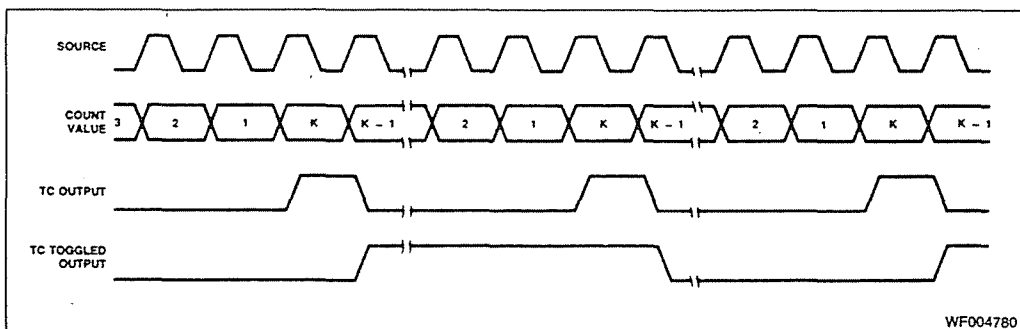

Figure 1-19. Counter Output Waveforms
One output form available is called Terminal Count (TC) and represents the period in time that the counter reaches an equivalent value of zero. TC will occur on the next count when the counter is at 0001 for down counting, at 9999 (BCD) for BCD up counting or at FFFF (hex) for binary up counting. Figure 1-19 shows a Terminal Count pulse and an example context that generated it. The TC width is determined by the period of the counting source. Regardless of any gating input or whether the counter is Armed or Disarmed, the terminal count will go active for only one clock cycle. Figure 1-19 assumes active-high source polarity, counter armed, counter decrementing and an external reload value of K.